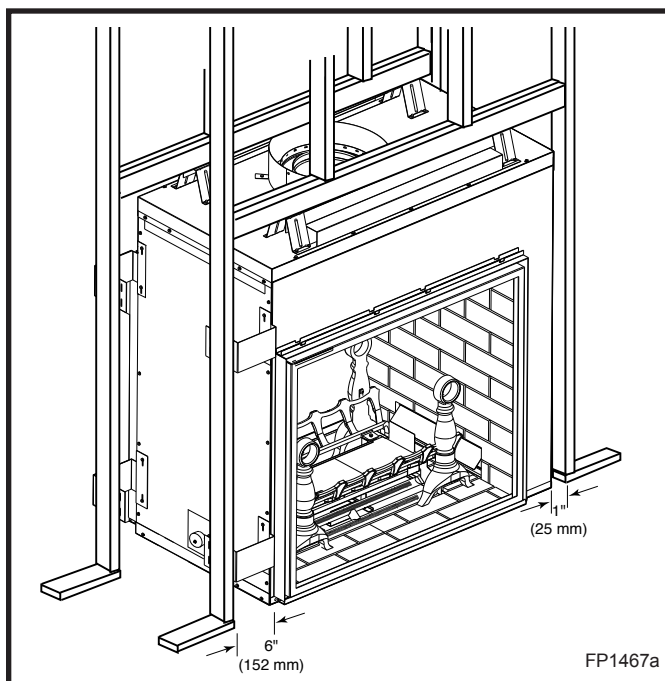

Fig. 5 Fireplace framing.
3. Frame the fireplace with a header across the top of the standoff. (Fig. 5) It is very important to allow for the finished wall face along with marble, tiles or any